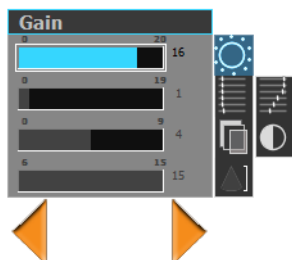

Fig. 35 Gain Control display
- 2** Tap or click the Gain control icon to activate the control (Figure 35). The current gain control setting is displayed on the right side of the gain gauge. The gain range is 0–20; the default setting is 10.
- 3 Tap the TGC control icon to activate the control (Figure 35). The current TGC control setting is displayed on the right side of the gain gauge.